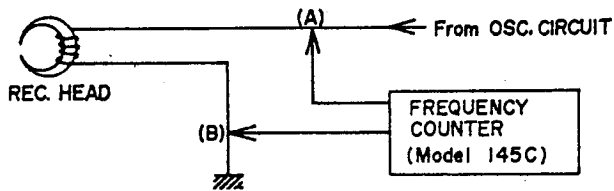

Fig. 21
- 1) Connect a frequency counter to points (A) and (B) in Fig. 21 of the REC. Head and read the frequency counter indication.
- Connect the various measuring instruments as shown in Fig. 21.